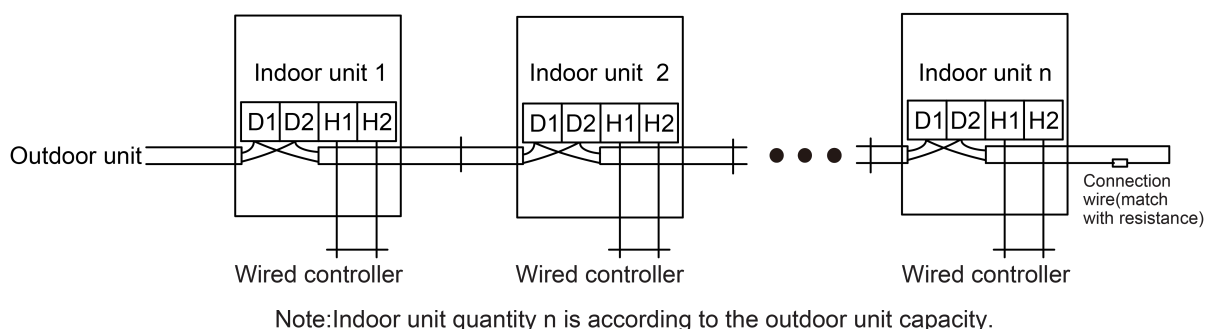

Fig 5.5
- (4) Secure the communication line with the wire clamp on the electric box.
- (5) In order to ensure the reliability of communication between IDU and ODU and the communication among each IDU, add a matched resistance (supplied in a package before ex-factory) on the wiring board of the last indoor unit in a series connection. The matched resistance should be connected in parallel between terminal screw D1 and D2, as shown in Fig 5.5.